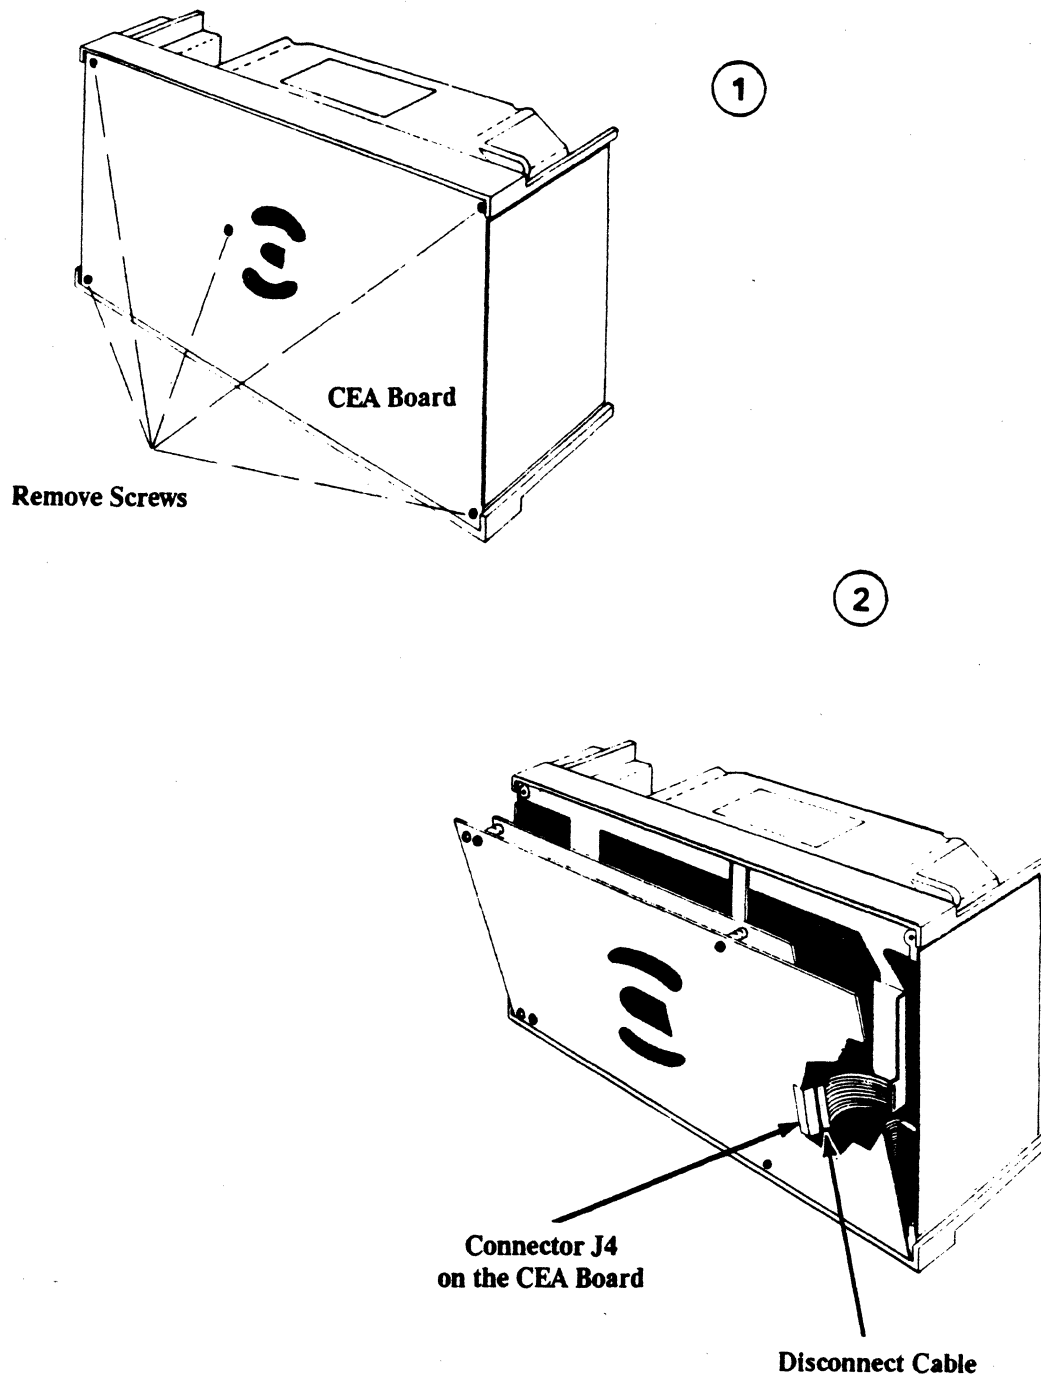

Figure 17
If, however, it is necessary to access the internal electronics of the CEA or SMD Interface Boards, then follow these instructions and refer the **Figure 17** and **17A**.
- (c) Carefully disconnect the heat sink ribbon cable connected to socket J4 on the CEA Board as shown in **Figure 17**.
Follow these instructions and refer to **Figures 17, 17A and 18** to install an External Interface Control Cable.